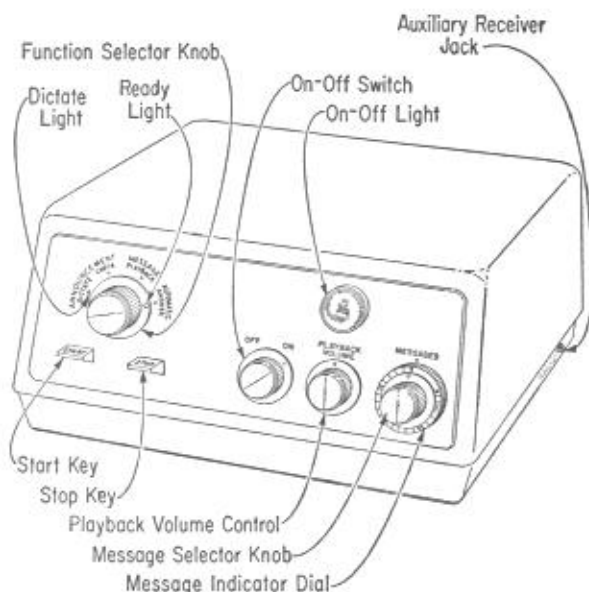

Fig. 1 — 1A and 1AA Answering Set, Exterior
2.01 The 1A answering set shown in Fig. 1 is used at common battery stations of the following classes of service.
2.08 All controls for the operation of the 1A answering set are mounted on the front panel (see Fig. 1). These controls are:
2.09 In addition to the controls mentioned in 2.08, there are three indicating lights on the front panel (see Fig. 1):